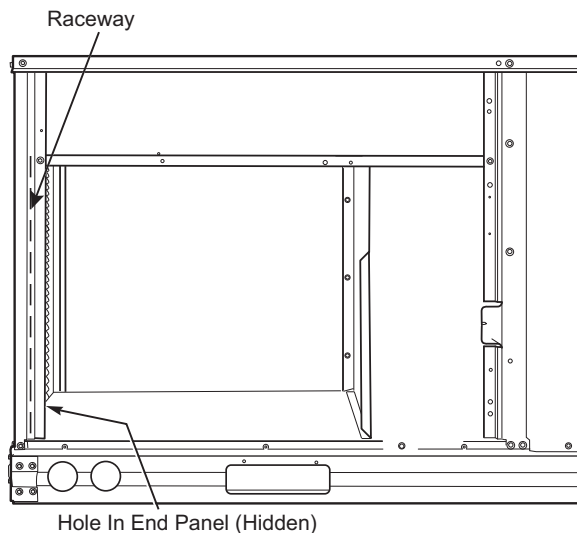

Fig. 26 — Field Control Wiring Raceway
Pass the thermostat control wires through the hole provided in the corner post, then feed the wires through the raceway built into the corner post to the control box. Pull the wires over to the terminal strip on the upper-left corner of the Unit Control Board. See Fig. 26.
2. Feed wires through the raceway built into the corner post (see Fig. 26) to the 24-v barrier located on the left side of the control box. The raceway provides the UL-required clearance between high-voltage and low-voltage wiring.